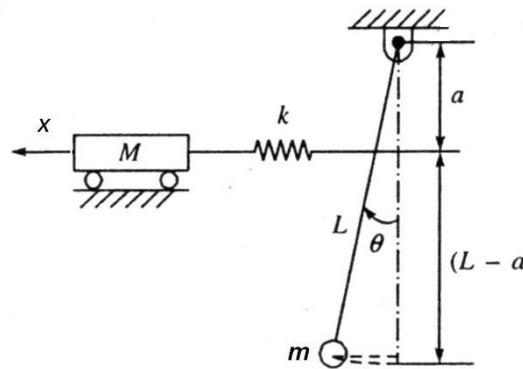

Fig. Q4(A)
- 4A Find the two natural frequencies of the system shown in figure Q4(A). Also plot the mode shapes for the system. Take  $a = 0.5$  m,  $l = 2$  m,  $m = 2$  kg,  $M = 5$  kg and  $k = 10$  N/mm. 04